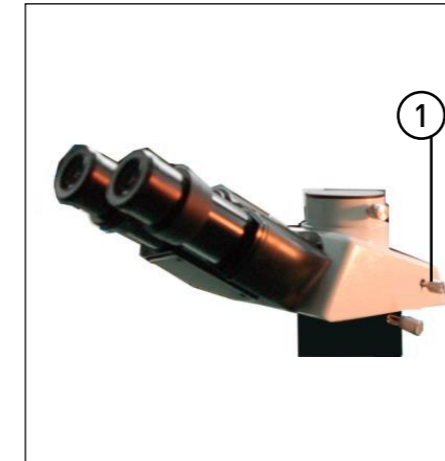

FIGURE 31
6.1.1 Selecting the light path (Fig. 31)